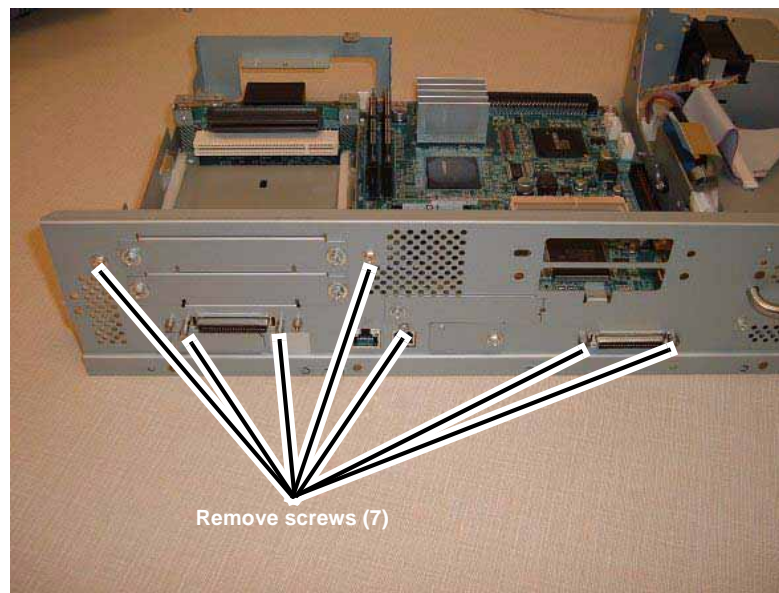

Figure 1 Removing front screws
2. Remove front screws (Figure 1).